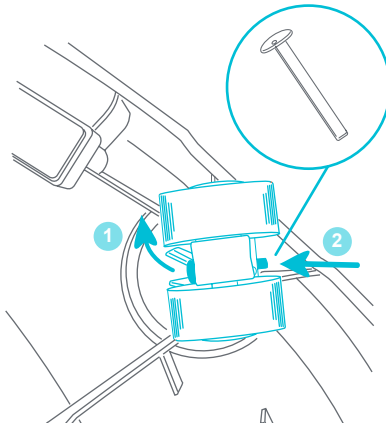

Fig. 14a
- 14 • **REMOVAL:** (1) Pull the small tab away from the pin. (2) Pull the pin out of the slots (Fig. 14a).